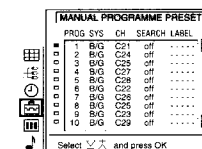

Fig. 22
- Select »Manual Programme Preset« with Δ or ∇ and press OK. The MANUAL PROGRAMME PRESET menu appears. (See Fig. 22.)